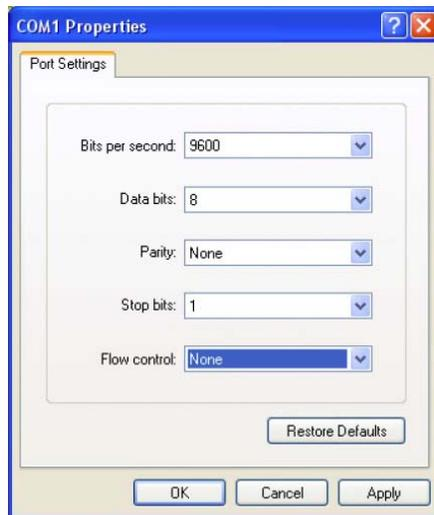

Figure 9. “COM1 Properties” Dialog Box
4. Comm port properties must be set to 9600 bits per second; 8 data bits; parity: none; stop bits: 1; and flow control: none (as shown in Figure 9).